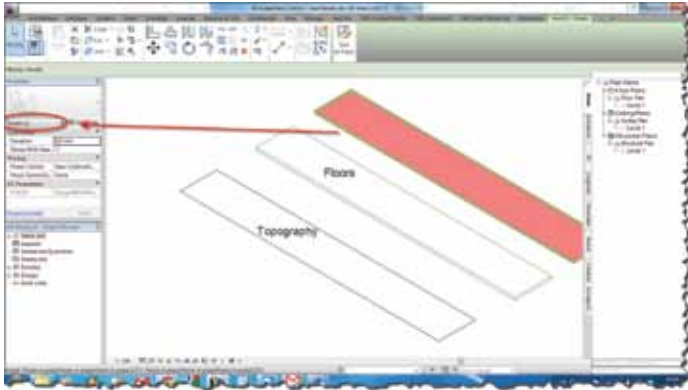
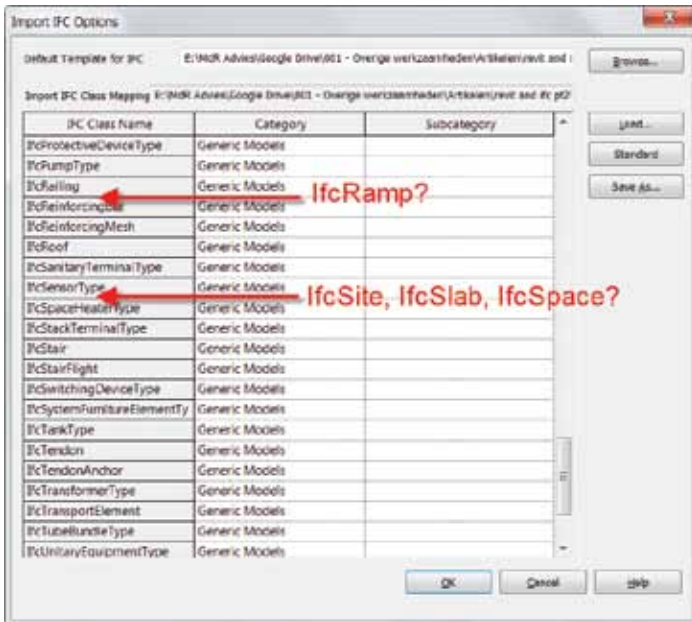

Figure 5
Figure 6
- Upon import, create a mapping table that converts all elements in `IfcBuildingElementProxy` to the category Roads and presto, you're done (see Figure 5). Notice that you cannot apply an override for the IFC classes associated with Revit System Families (see Figure 6).